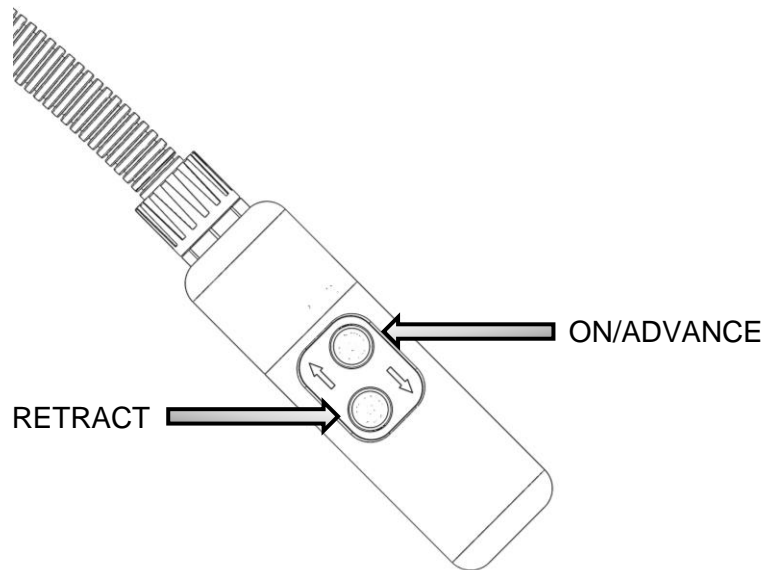

Figure 6.2: Control Pendant Operation
2. Turn the pump ON by pressing the 'advance button' once. (See figure 6.2)
All operating functions of the pump are performed via the two buttons on the control pendant (9). (See figure 6.2)
3. Using the 'control pendant' (9), press the 'Advance' button once to start the pump. (See figure 6.2)